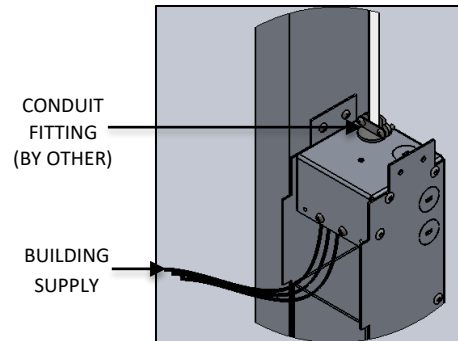

FIG. 10- DETAIL SHOWING
6. Attach appropriate 1/2" CONDUIT FITTING to knockouts and run building supply connections into the box. make sure to pull the wires out through the square opening as shown below in FIG. 10 & 11.